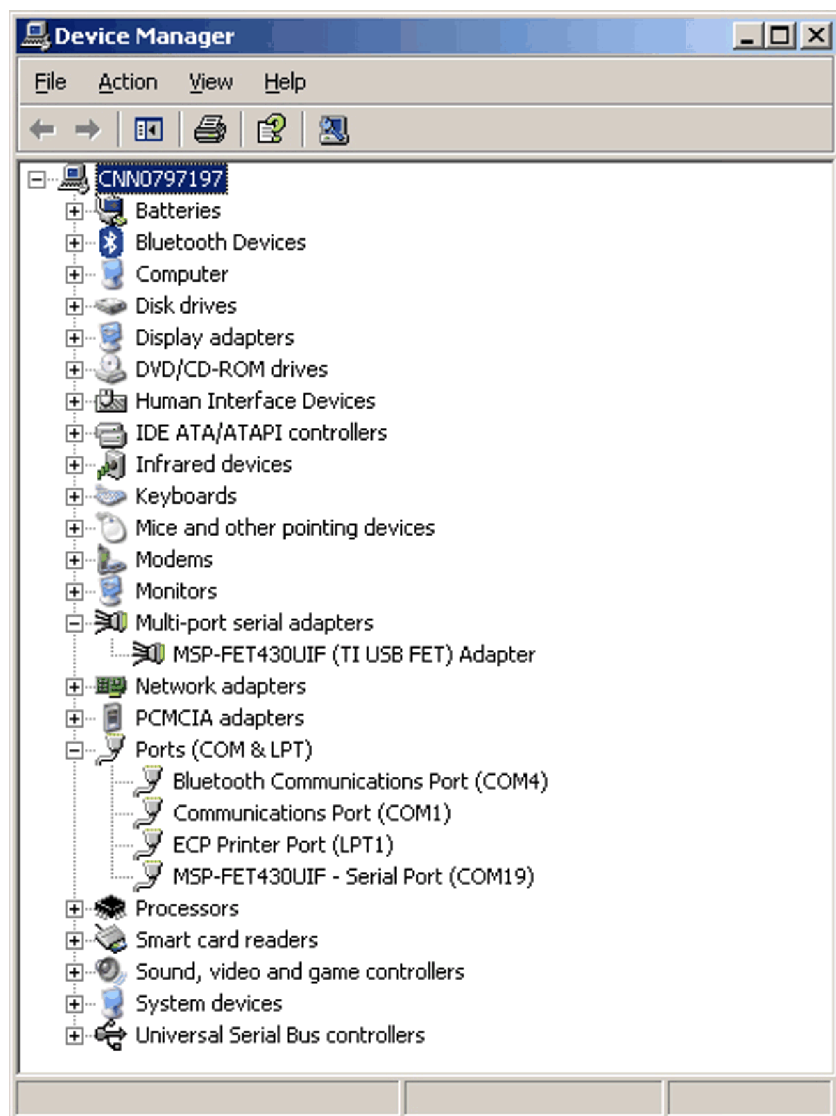

**Figure E-4. Windows XP Driver Installation**
8. Note that Windows XP shows a warning that the driver is not certified by Microsoft®. Ignore this warning and click "Continue Anyway" (see Figure E-4).